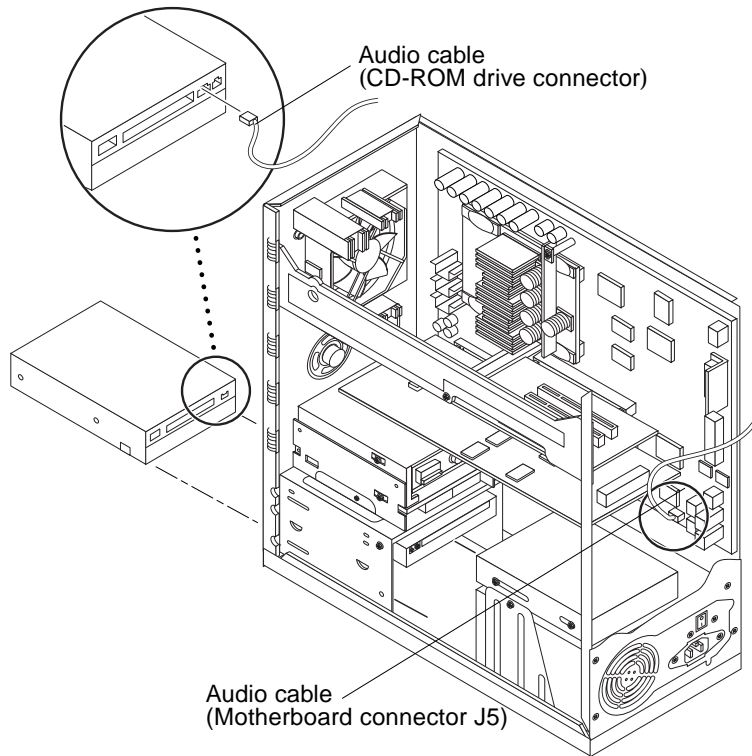

FIGURE 6-5 Removing and Replacing the Audio Cable
- a. **Remove the audio cable assembly connectors from the following (FIGURE 6-5):**
1. **Replace the audio cable assembly as follows (FIGURE 6-5):**